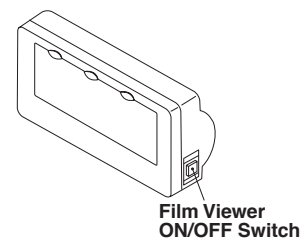

Fig.3-21 Dental Size Film Viewer
(1) Dental Size Film Viewer (Fig.3-21)(Optional)